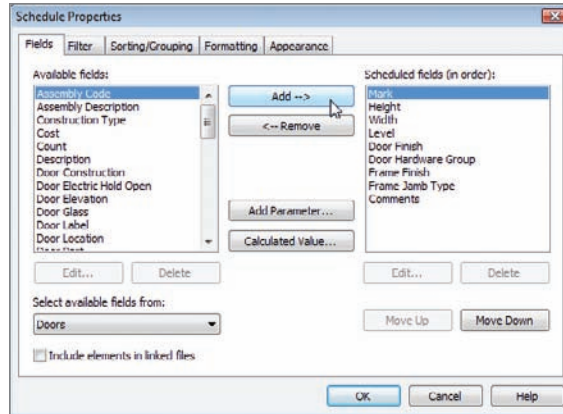

FIGURE 11.3 Adding the fields to produce a door schedule
4. The next dialog allows you to add the fields (parameters) required for your schedule. The first field you will add is Mark. To do this, find Mark in the area to the left, and click the Add button in the middle of the dialog, as shown in Figure 11.3.
5. When this field is added, add the following fields using the same method (see Figure 11.3):